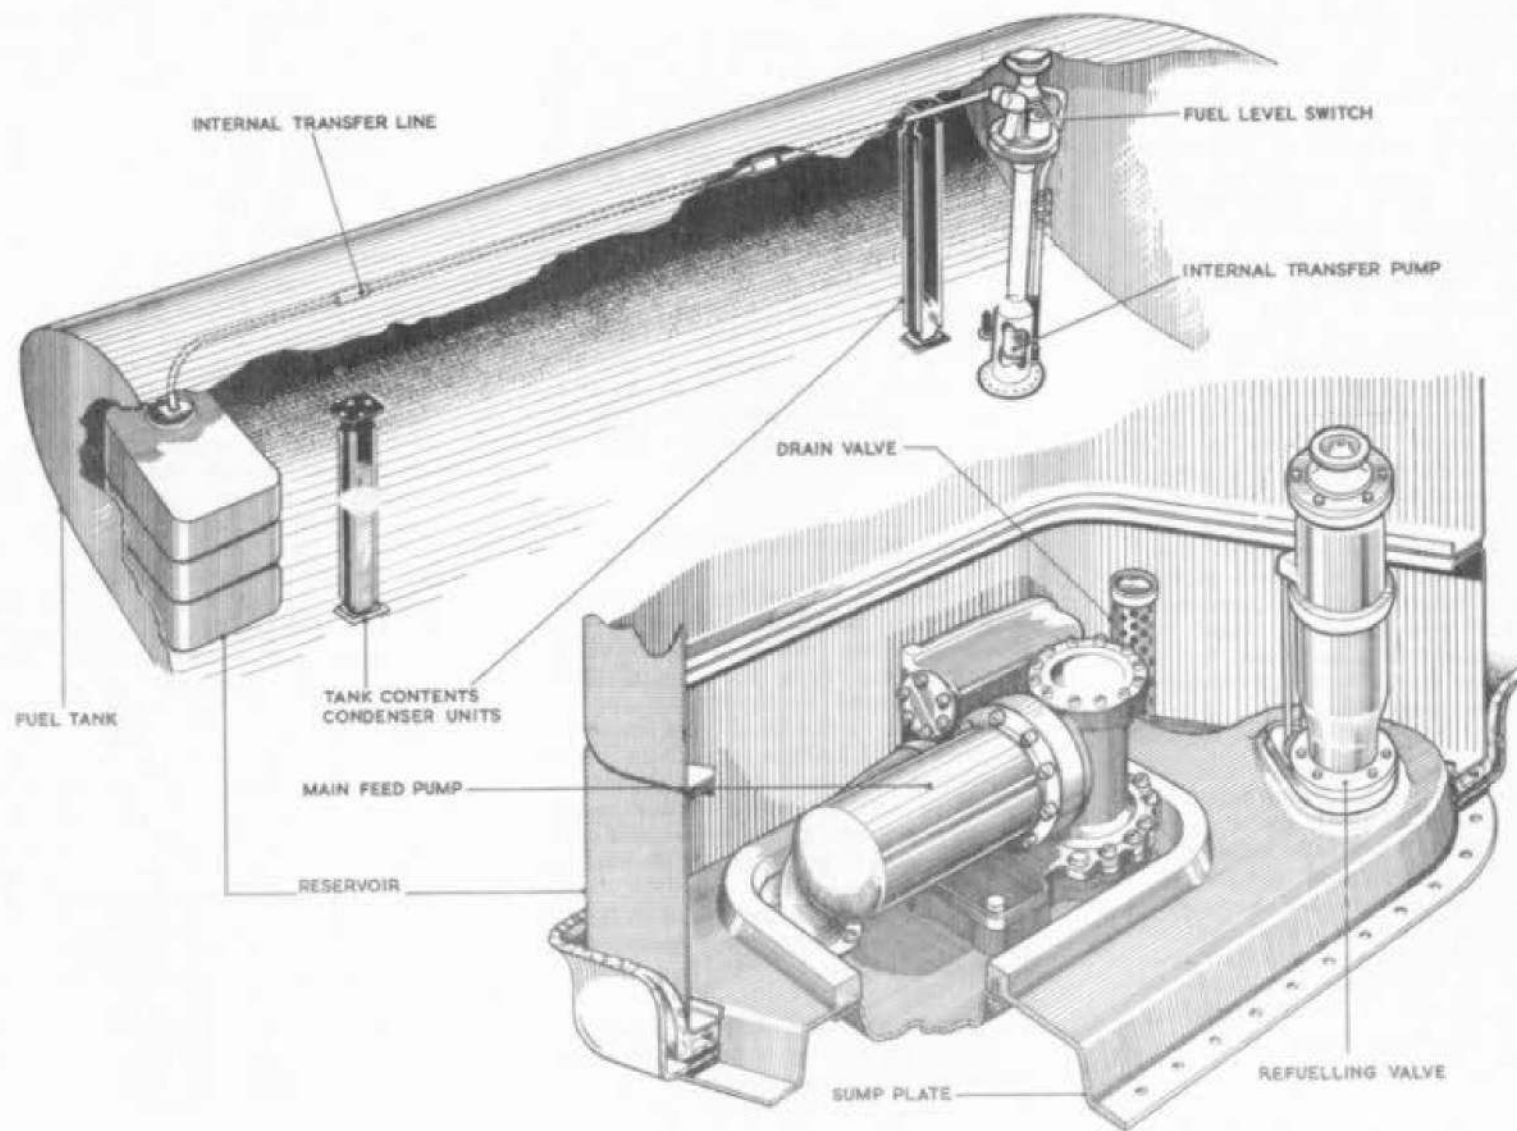

Fig. 7. Fuel tank equipment.
32. A constant supply of fuel to the main pumps, housed within the tank reservoirs (para.15), is maintained during all aircraft attitudes, by an internal transfer auxiliary pump, Type SPE.106 Mk.1, mounted in each tank at the opposite end to the main pump and inside the fuel level switch tubular units (fig.7). Normally the main pumps obtain their supply from the tank through the reservoir flap valve aperture. In an appreciable dive, or side slip the auxiliary pump maintains the supply by pumping fuel from the opposite end of the tank, through an internal transfer pipe into the reservoir, and the head of the fuel thus created causes the flap to close.